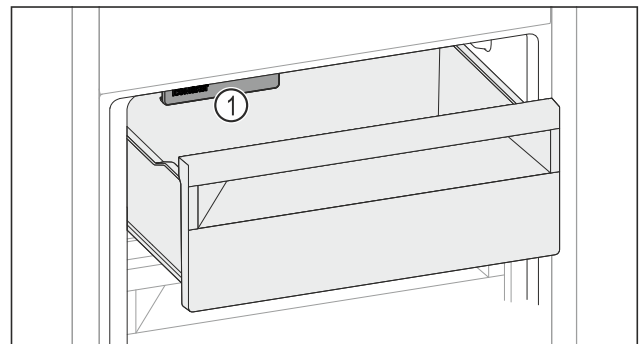

Fig. 49
- ▶ Pay attention to the IceMaker Fig. 49 (1).